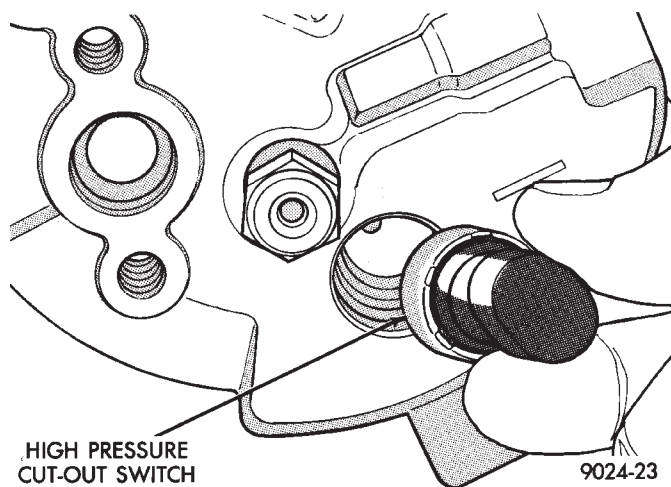

Fig. 8 Remove or Install High Pressure Cut-out Switch
- (4) Pull switch straight out from end cover. Remove and discard used O-ring seal (Fig. 8).